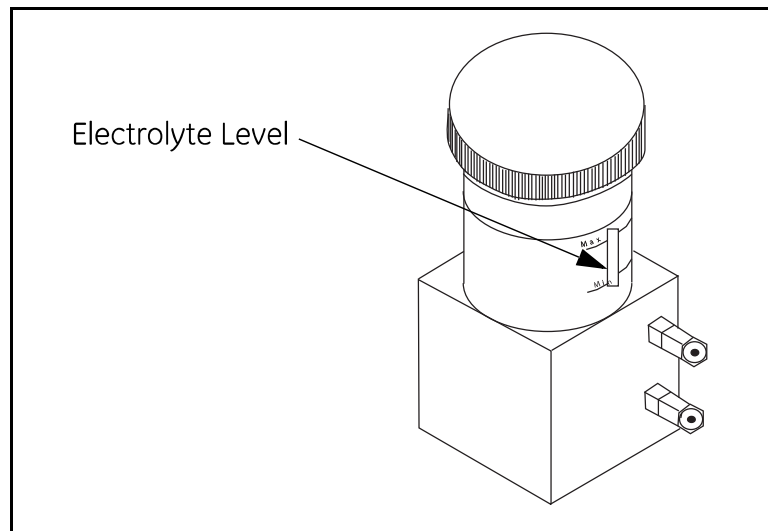

Figure 6: Delta F Oxygen Cell Electrolyte Level
The Delta F Oxygen Cell is available with various types of mounting enclosures. However, the cell itself will always look like the one shown in *Figure 6* below.
3. Using the min/max window on the oxygen cell, check the electrolyte level. The electrolyte should cover about 60% of the window (see *Figure 6 on page 11*). The cell is now ready to be connected to the gas line.